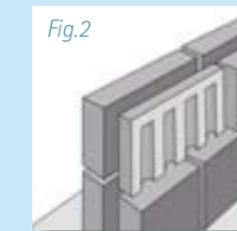

Fig.2
- Lay blocks vertically, voids down (see Fig.2)